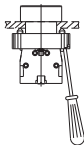

Figure 4 Assembly diagram of metal head type base
① When installing metal head type button, insert the operation head into the mounting hole from the front of the panel, then screw it into the base from the back of the panel. Tighten the fixing screws at both ends evenly (as shown in Figure 4). Do not overtighten the screws, the torque should not exceed 0.25N·m. If the button is jammed after installation, adjust the two fixing screws on the base and make sure they have the same tightness.